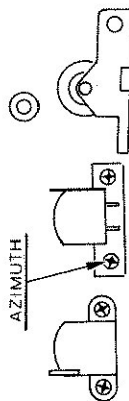

Fig. 12 Azimuth-justering
- Adjust azimuth (see Figure 12) until max. output is obtained at both channels simultaneously.